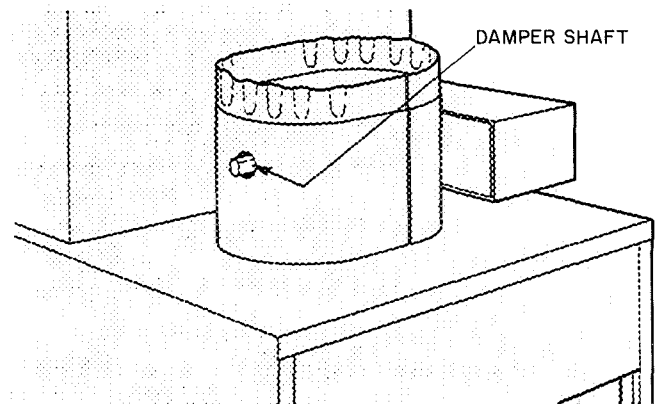

Fig. 5 – Damper in Open Position
Step 5 – Check Operation (Fig. 5 and 6).
- Check automatic vent damper for proper operation before leaving the job. The vent damper is held closed by the damper motor during the furnace OFF cycle. When the furnace is in the HEATING cycle, the damper motor is de-energized and the spring-activated damper is opened, and remains open. The vent damper must always be open during the furnace heating cycle. Damper position is indicated by the orientation of the shaft end which protrudes horizontally from the damper housing opposite the damper control box (left side as installed). The damper is open when the long dimension of the shaft is vertical and closed when the long dimension is horizontal (see Fig. 5 and 6). Be sure the shaft end is clearly visible.